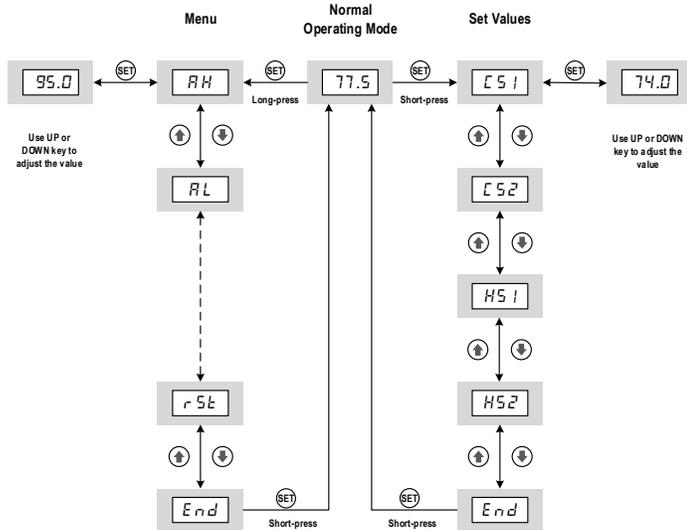

Figure 3. How to access the set values and the parameters in the menu.
- 3) Set up the setpoints and system parameters. Please read the rest of this manual for details. See the flow chart in Figure 3 for how to access the set temperatures and the parameters.